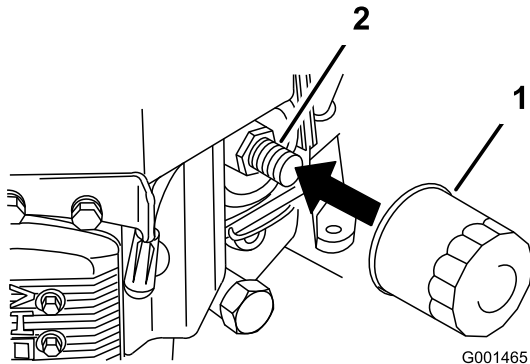

Figure 25
2. Remove the old filter (Figure 25).
3. Apply a thin coat of new oil to the rubber gasket on the replacement filter (Figure 25).
4. Install the replacement oil filter to the filter adapter, turn the oil filter clockwise until the rubber gasket contacts the filter adapter, then tighten the filter an additional 3/4 turn (Figure 25).